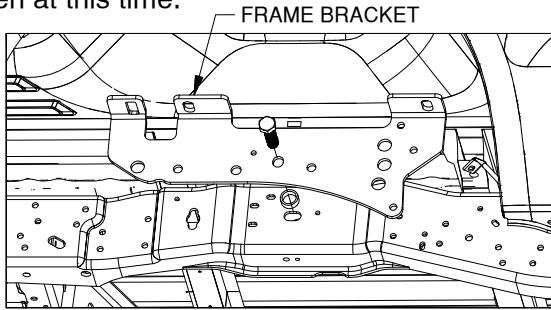
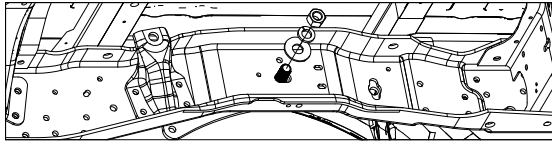

Figure B1: View looking into passenger side wheel well.
Figure B2: View under bed looking at the inside passenger side frame.
1. **Install 3/4" Bolt.** Start by locating a 3/4" X 2-1/2" cap screw, mounting washer, 3/4" flat washer, 3/4" lock washer and 3/4" finish nut. Pass the 3/4" cap screw through the frame bracket and install a mounting washer onto the cap screw on the other side of the frame bracket. While holding the cap screw and mounting washer in place, pass the cap screw into the frame of the truck, see figure B1. Attach the 3/4" cap screw with a 3/4" flat washer, 3/4" lock washer, and 3/4" finish nut, as shown in figure B2. Do not tighten at this time.